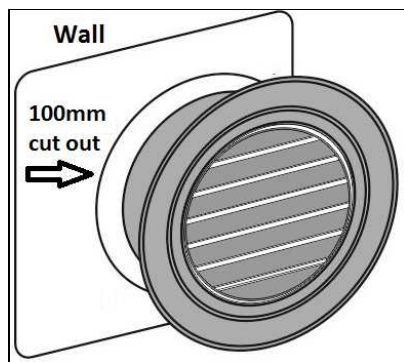

Fig. 6
6. Using the remaining ducting, fit this to the outlet of the ducted fan (note the direction of the airflow) and feed to the outlet of the wall grille. We recommend positioning the grille (Fig.6) on the exterior wall of the building, where routing of the duct can form a straight line between the ducted fan and the grille outlet; this will ensure the best air extraction.